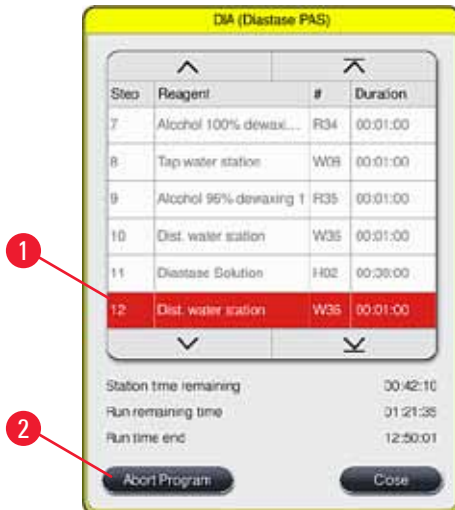

Fig. 89
2. A list of program steps (→ "Fig. 89") appears; the current step is marked in red (→ "Fig. 89-1").